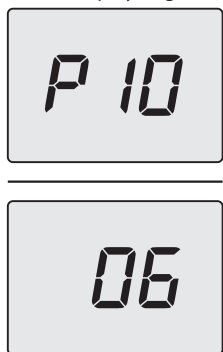

Figure 5.74
- Scroll through the various parameters by pressing the keys 12 (back) or 14 (forward), until **P10**, which alternates with the parameter value, appears on the LCD display (Figure 5.74).